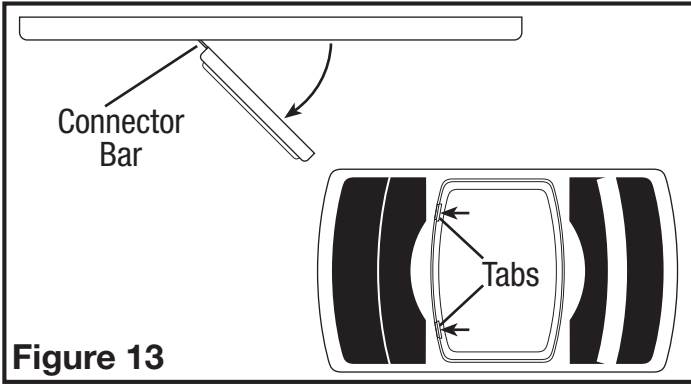

Figure 13
7. Close the light lens and secure in place by swinging back into position and snapping the tabs in place (**Figure 13**).
3. **Changing the Light Bulb:** Disconnect power to the unit. Open light lens by pushing in on the two tabs of light lens and pulling outward from lens. The lens will swing open on the connector bars. DO NOT remove the lens from the grill (**Figure 13**).